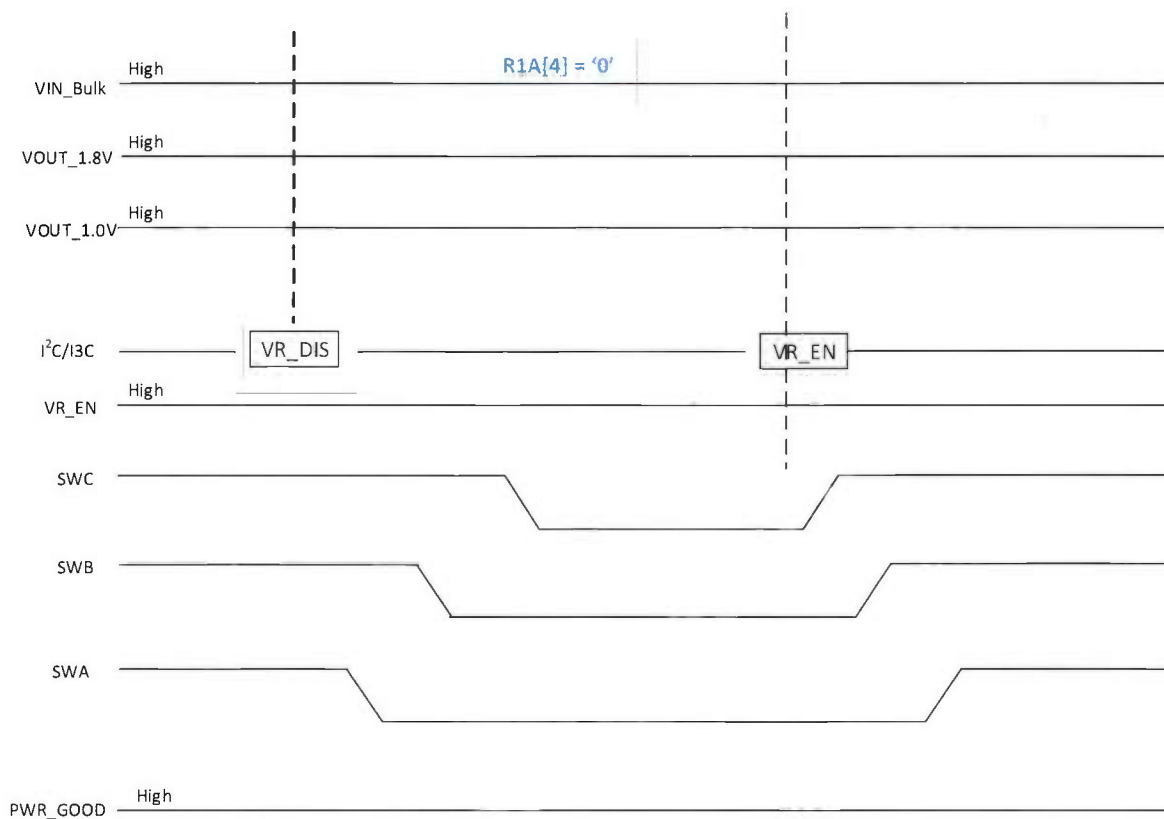

Figure 26 — Power Down with VR_DIS; R1A[4]=0; Programmable Mode; PWR_GOOD Signal
- b. If VR Disable command on a I²C/I³C Bus (i.e., [Table 146, Register 0x32 \[7\] = '0'](#)), PMIC keeps the PWR_GOOD signal floating because this is an intentional command from the host and not a fault condition. The host can re-enable the PMIC's output regulators by issuing VR_EN command on the I²C/I³C bus (i.e., [Table 146, Register 0x32 \[7\] = '1'](#)). The PMIC executes power on sequence config 0 to power on sequence config 2 registers and continues to float the PWR_GOOD signal until tPMIC_PWR_GOOD_OUT time at which point, PMIC assumes normal control of PWR_GOOD signal. See Figure 26. The PMIC does not require power cycle.
2. Configuring one or more bits in Table 143, Register 0x2F [6,4:3] to '0' in any specific sequence that is desired by the host. The PMIC does not execute power off sequence config0 (Table 176, Register 0x58) to power off sequence config2 (Table 178, Register 0x5A.) on its own. The PMIC keeps the PWR_GOOD signal floating because this is intentional command from the host and not a fault condition. Note that host can re-enable any of disabled output regulators by configuring one or more bits in Table 143, Register 0x2F [6,4:3] to '1' in any specific sequence that is desired by the host. The PMIC keeps the PWR_GOOD signal floating. The PWR_GOOD signal behavior is same as in Figure 26.